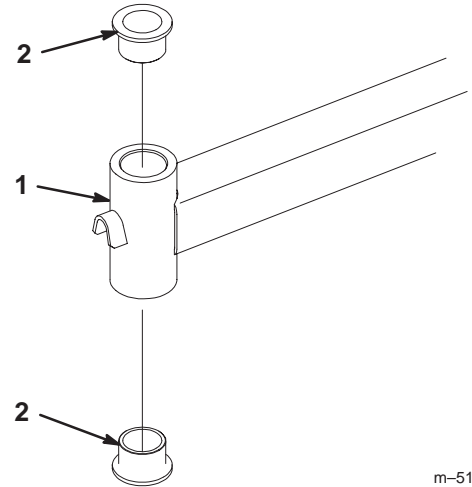

Figure 62
4. Insert a pin punch into the mounting tube and carefully drive out the bushings (Fig. 62). Clean the inside of the mounting tube.